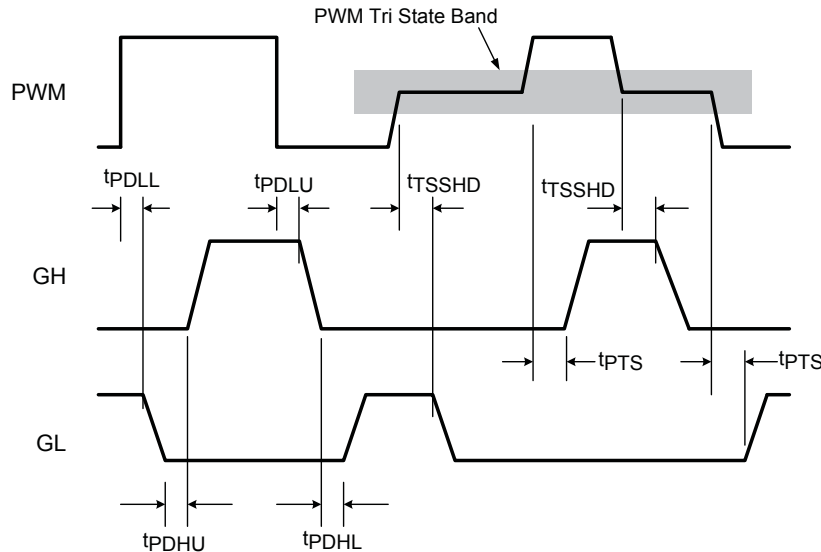

Figure 13. Timing Diagram
AOZ5019QI is offered in two versions which can be interfaced with PWM logic compatible with either 5 V (TTL) or 3V (CMOS). Refer to Figure 13 for the timing and propagation delays between the PWM input and the gate drives. The PWM is also a tri-state compatible input. When the input is high impedance or unconnected both the gate drives will be off and the gates are held active low. The PWM Threshold Table (Table 1) lists the thresholds for high and low level transitions as well as tri-state operation. As shown in Figure 13, there is a hold off delay between the time PWM signal enters the tri-state window and the corresponding gate drive is pulled low. This delay is typically 170 ns and intended to prevent spurious triggering of the tri-state mode which may be caused either by noise induced glitches in the PWM waveform or slow rise and fall times.
**Note:** See Figure 13 for propagation delays and tri-state window.